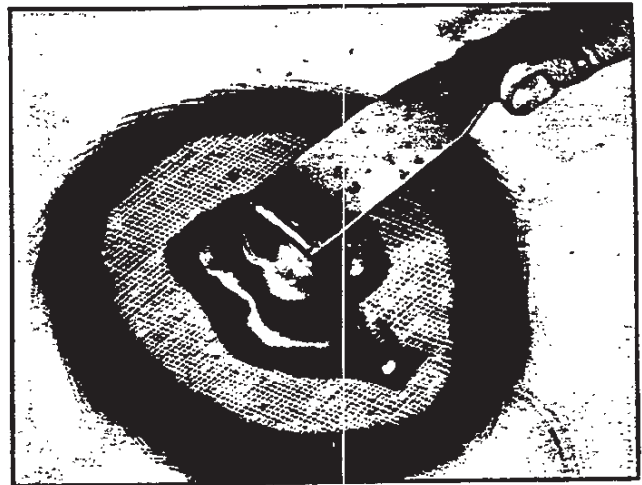

Fig. 50—Applying Plastic Solder
3. Apply the material, using a putty knife or rubber squeegee, Figure 50. Work the material into the repair and build the material up to the desired